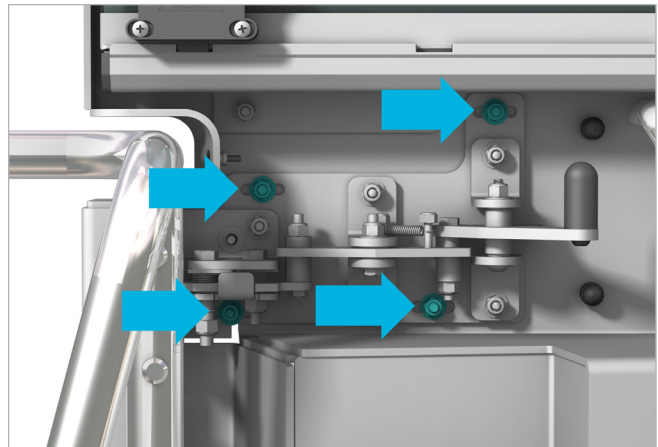

Figure 1 – Nut locations.
1. Using the 5/32 in. hex key and 7/16 in. wrench, loosen the nuts shown in **Figure 1**. This allows the latch assembly to slide for adjustment.
3. Using the 5/32 in. hex key and 7/16 in. wrench, tighten the nuts and screws shown in **Figure 1** to a final torque of 75 in-lbs.